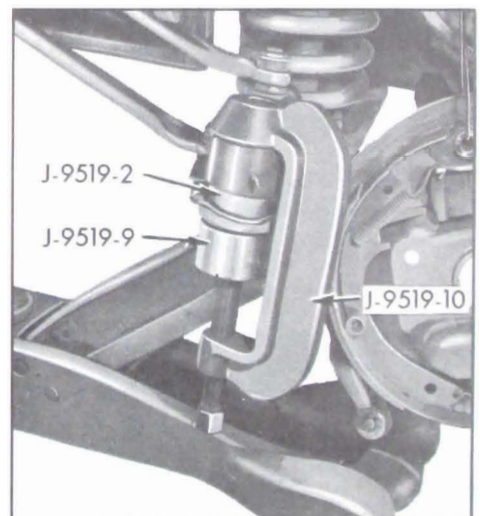

Figure 7-19—Lower Ball Joint Installer Tool in Place - 49000
3. Loosen, but do not remove nut. Force of chassis spring will be tending to disengage ball joint tapered stud from steering knuckle. Rap knuckle sharply in area of tapered stud to disengage stud from knuckle. See Figure 7-19.
1. On 49000 Series position ball joint minus dust shield in lower control arm and install Tool J-9519 as shown in Figure 7-19. Note that the larger O.D. portion of Tool Detail J-9519-2 is positioned in Detail J-9519-10.